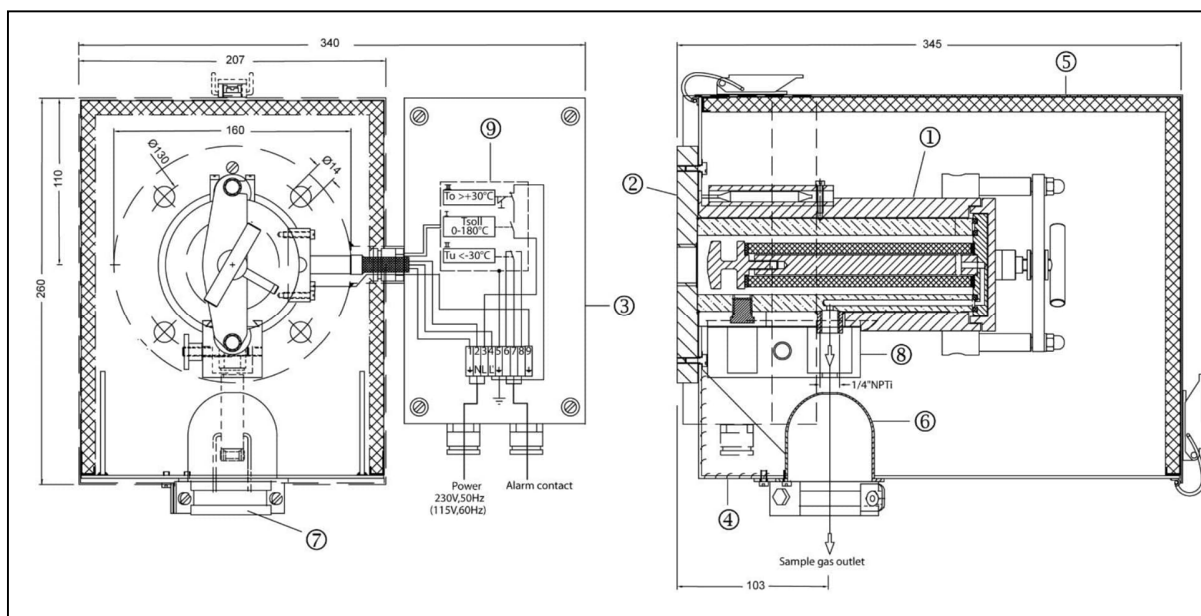

Figure 4. Basic structure of the SP2000-H sample probe.
A complete gas sample probe consists of the heated filter part and a sample tube or prefilter. The filter housing with its all-round heating element (number 1 in Figure 4) forms a unit with the standard mounting flange DN65 PN6 (2) and the laterally mounted electrical connection box (3).
The stack coupling of the probe must be ready before the delivery. The size of the probe is approximately 340 x 260 x 345 mm (length x height x depth) and the weight about 17 kg (Figure 4). The flange is of the type DN65PN6. Please see more details from the M&C SP2000-H Mounting Flange DN65PN6 manual.